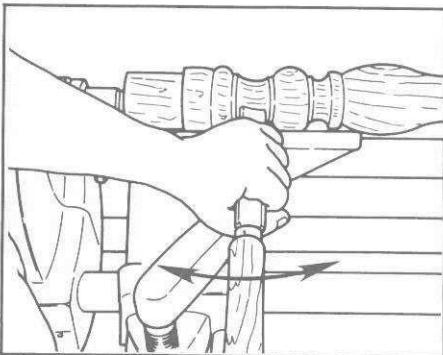

Figure 8. Cutting the coves.
b. Cut the **coves**. Feed a gouge slowly into the stock, then move the handle of the tool from side to side to shape the cove. (See Figure 8.)